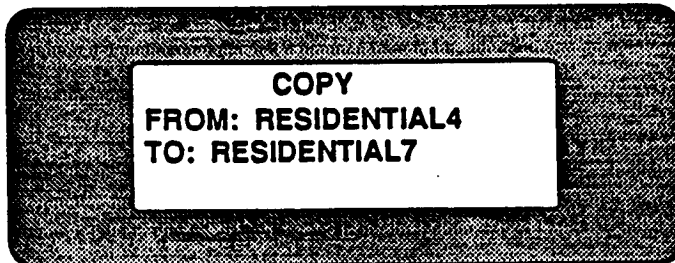

Figure 15: COPYING A RECORD
2. Select COPY using the red ↓ or ↑ keys, and press the red ENTER GROUP key. The COPY display appears (see Figure 15).